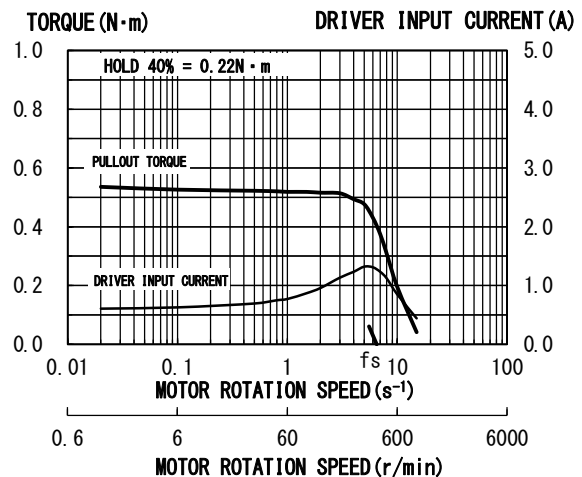

Fig. 5
|         | SM2562C10U41 (11)    | 1.8        | 1.0         | 7                      | Fig. 5       |